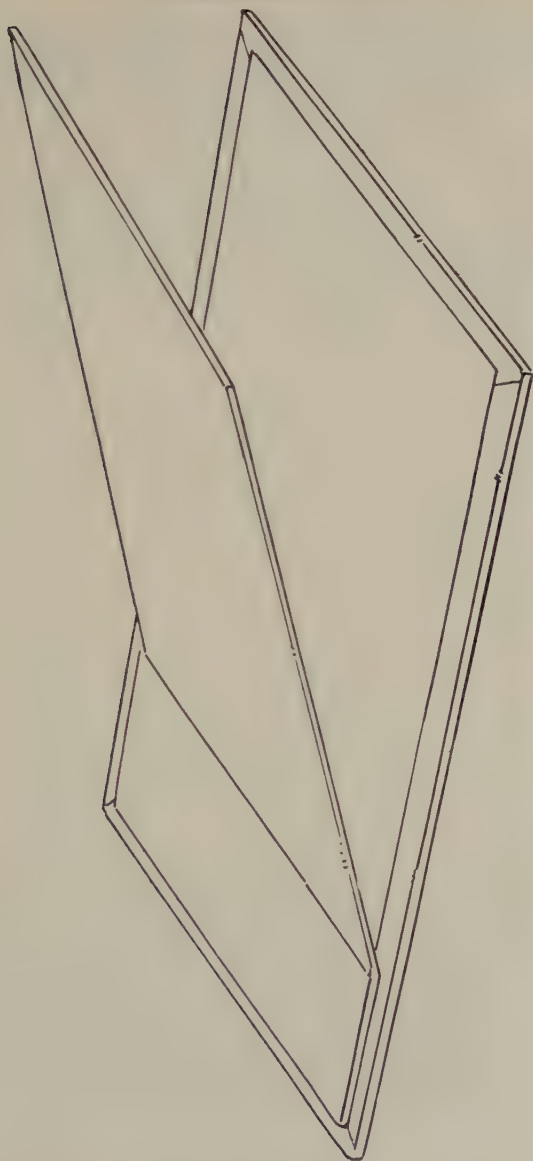

FIG. 79—EASEL ATTACHED TO BACK OF CALENDAR FACE BOARD
15. Turn the easel board face down on a piece of newspaper, place another piece of paper over the large lower portion of the easel and *glue-off* carefully the narrow board back of the easel (this is the 2'' wide piece). Affix this carefully to the back of the face board, *at the top* where your lining paper does not cover it. (Fig. 79.)